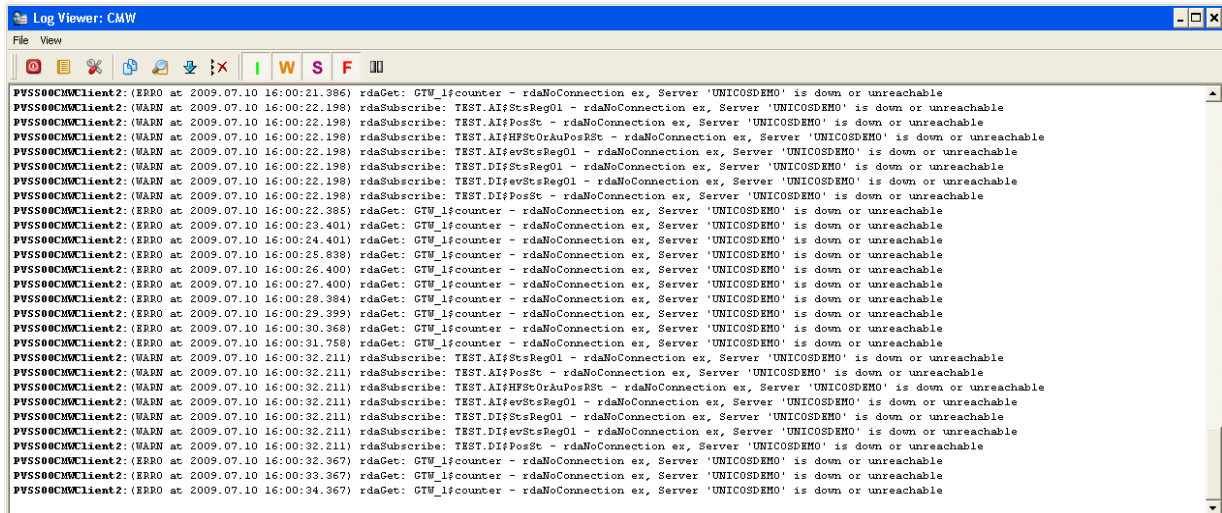

Figure 4: Error when starting the PVSS00CMWClient.
- stop the PVSS00sim and start the PVSS00CMWClient -num 2 (unblock the program if needed), the errors shown in Figure 4 will appear in the log (these errors means that the CMW Client cannot find the device because the CMW Server is not reachable